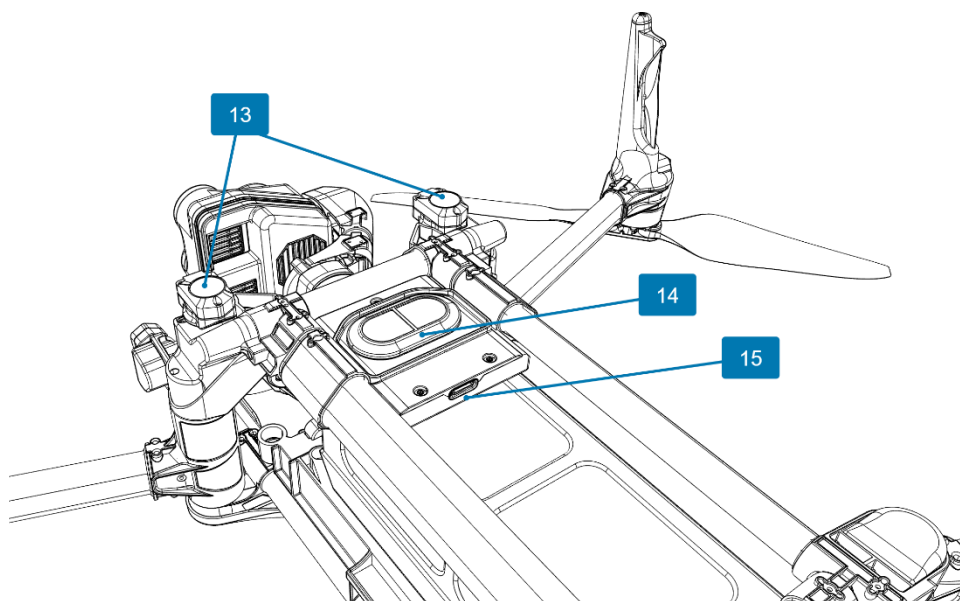

Figure 11: ANAFI UKR underside view
- USB-C port (*No. 15 in Figure 11*) - Used for drone/controller pairing, media access, and webserver access. The maximum available output power is 5V/2A.